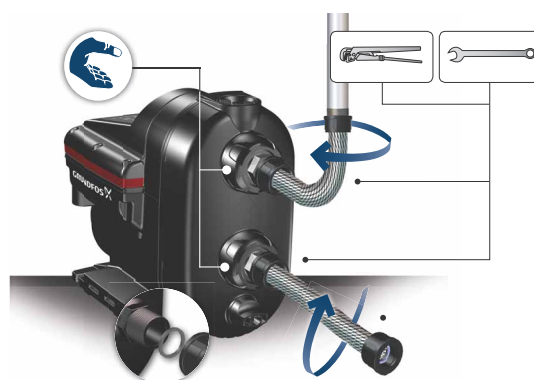

Fig. 3 How to fit the connections
2. Then fit the connections to the inlet and outlet holding the connections with one hand, and tightening the union nuts with the other hand. See fig. 3.